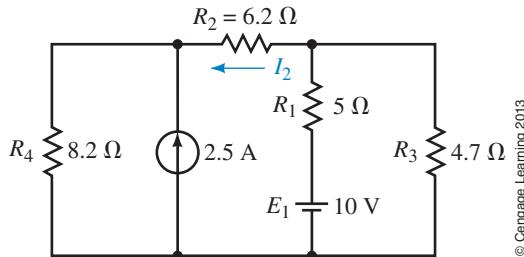

FIGURE 8-81
27. Use mesh analysis to solve for the current I_2 in the circuit of Figure 8-81.